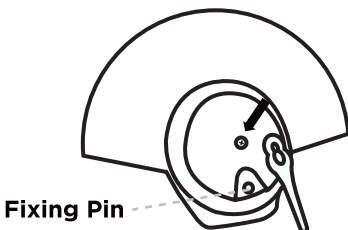
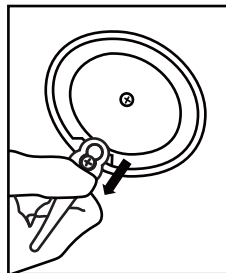

Fig. 4
Fig. 5
- b.** Align the plastic blade with the fixing pin. (Fig. 4) Hook the blade over the fixing pin. (Fig. 5)